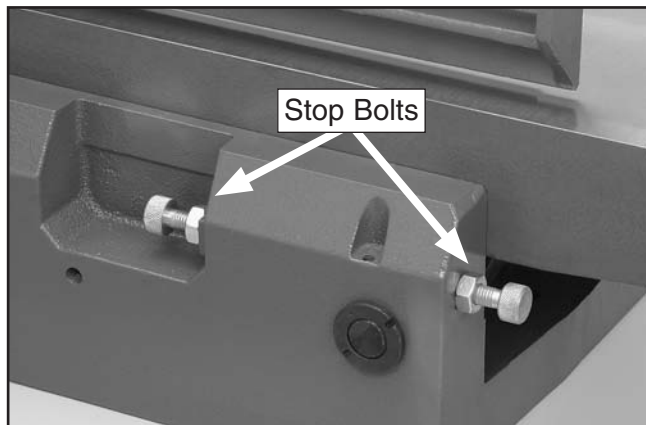

Figure 67. Outfeed table positive stop bolts.
4. Loosen the outfeed table lock located at the front of the machine, and loosen the jam nuts and positive stop bolts located at the back of the machine just behind the outfeed table (see **Figure 67**).
8. Tighten the outfeed table lock located at the front of the machine, and tighten the positive stop bolts and jam nuts located at the back of the machine (see **Figure 67**) so that the outfeed table will not move during operation.